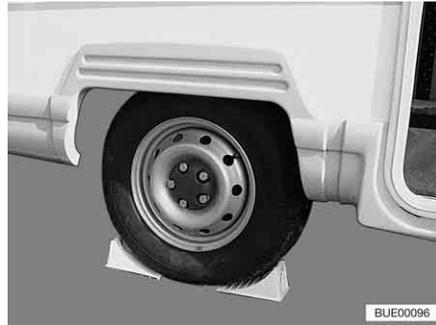

Fig. 248 Securing vehicle
- Place wheel chocks or other appropriate objects beneath the opposite wheel of the vehicle to secure it (Fig. 248).